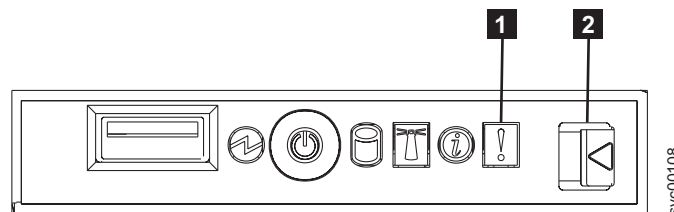

Figure 103. SAN Volume Controller 2145-8F4 operator-information panel
- Is the Error LED, shown in Figure 103, on the SAN Volume Controller 2145-8F2 or the SAN Volume Controller 2145-8F4 operator-information panel illuminated or flashing?**